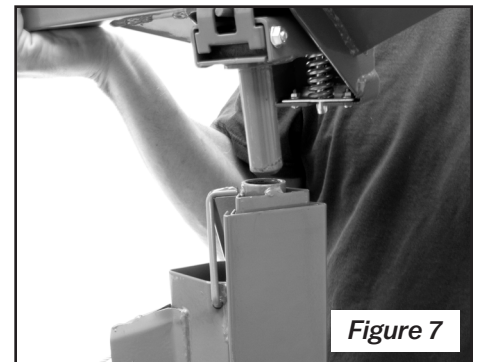

Figure 7
- Insert the cradle's post into the opening on top of the frame (Figure 7).